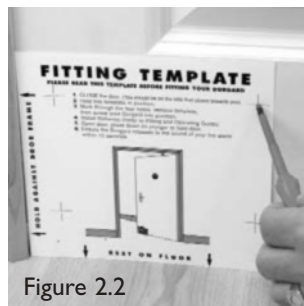

Figure 2.2
- 3) Make pilot holes or mark the position for the holes through the template. (Fig 2.2)